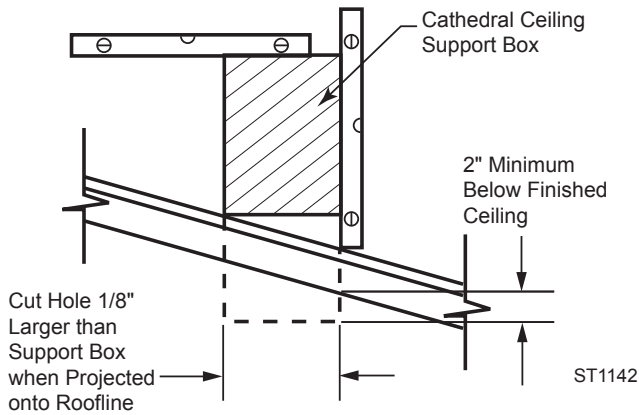

Figure 27 - Cathedral Ceiling Support Box Installation
2. Cut the hole 1/8" larger than the support box outline. *Figure 27*.
3. Lower the support box through the hole in the roof until the bottom of the box extends at least 2" (mm) below the ceiling. *Figure 27.* Align the support box vertically and horizontally using a level. Temporarily tack the support box in place through the inside walls and into the roof sheeting.